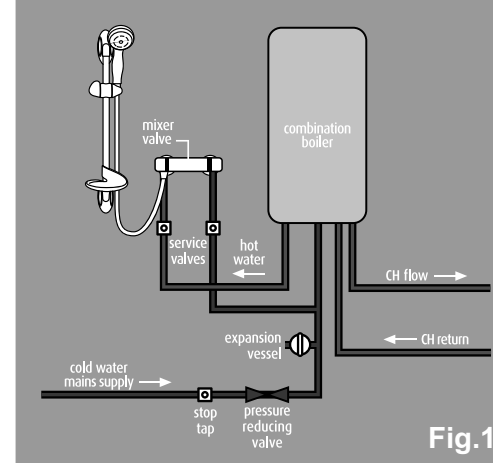

Fig.1
a) Instantaneous Gas-heated Systems, e.g. Combination Boilers (Fig.1)